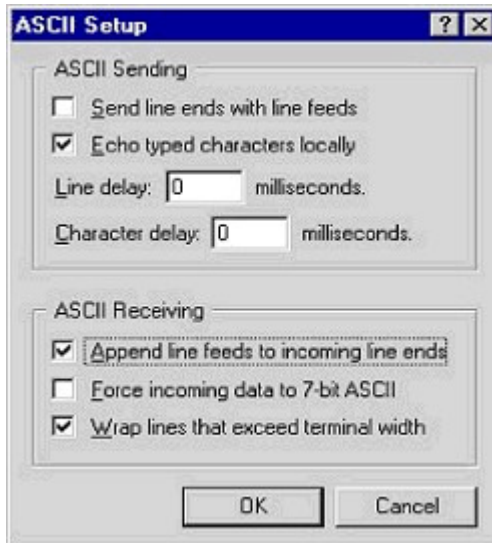

Figure 6. ASCII Setup Window
9. Press the ASCII Setup... button. A window for ASCII Setup will appear (Figure 6). You will need to check Echo typed characters locally and Append line feeds to incoming line ends (Figure 6). Press the OK button.